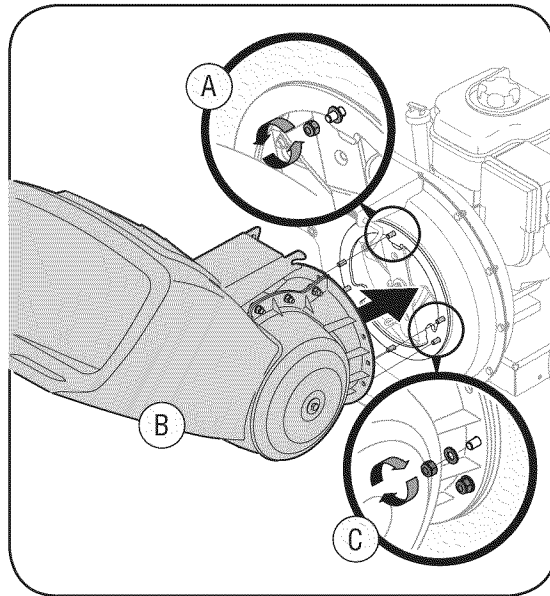

Figure 3-1
- Remove six hex nuts and washers from the weld studs on the impeller housing. Do not remove the support plate. See Figure 3-1.